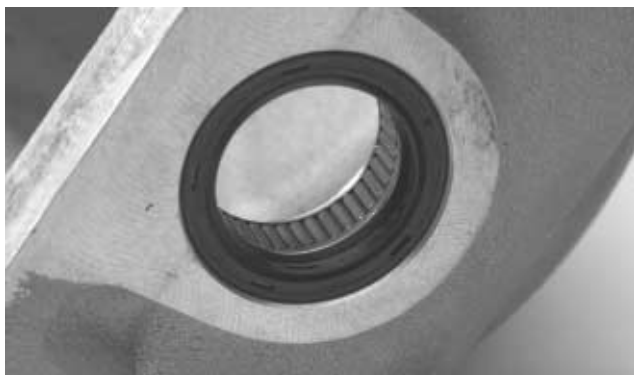

Figure 37
2. Inspect needle bearings (34) for wear and damage. Replace bearings if needles are bent, do not rotate freely, or do not remain in the bearing cage. Replace oil seal (33) if it is cracked, nicked, torn, or distorted such that it would not hold a proper seal (Fig. 37).